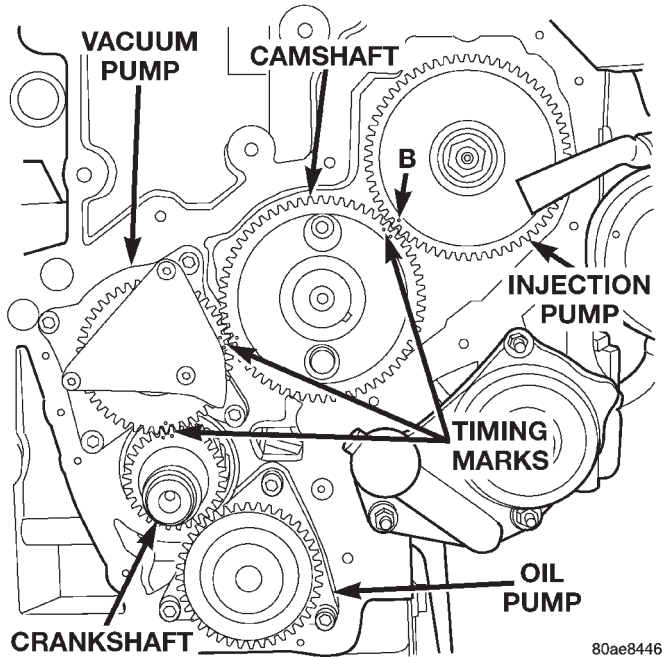

Fig. 85 Timing Marks
- (1) Disconnect the negative battery cable.
- (2) Remove the timing gear cover. Refer to timing gear cover removal and installation in this section.
- (3) Align all the timing marks before removing the vacuum pump (Fig. 85).
- (4) Remove the vacuum pump retaining bolts..
- (5) Remove the internal vacuum pump.
- (1) To install the vacuum pump, align the outer part of the gear with the inner part using a screwdriver or similar tool, align with timing marks on gear set and install (Fig. 85). Torque bolts to 28 N·m (20 ft. lbs.).
- (2) Install the timing gear cover. Refer to timing gear cover removal and installation in this section.
- (3) Connect the negative battery cable.